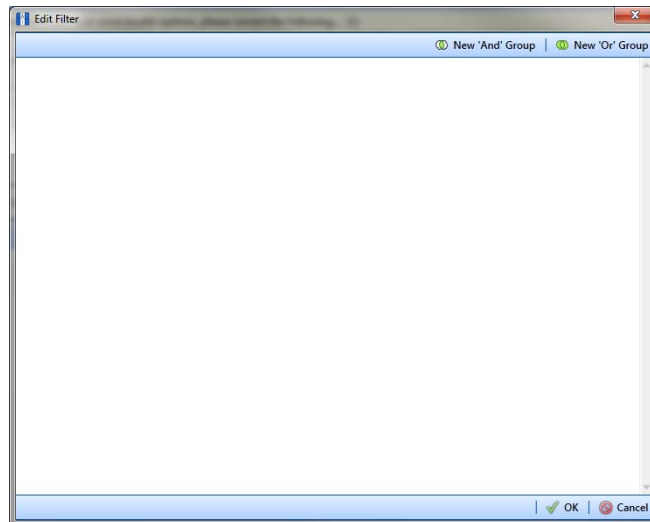

Figure 10-21. Edit Filter
- b Click  **Edit** in the *Filters* group box to open the *Edit Filter* dialog box (Figure 10-21).